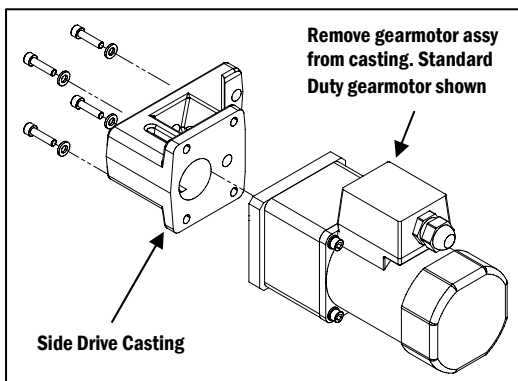
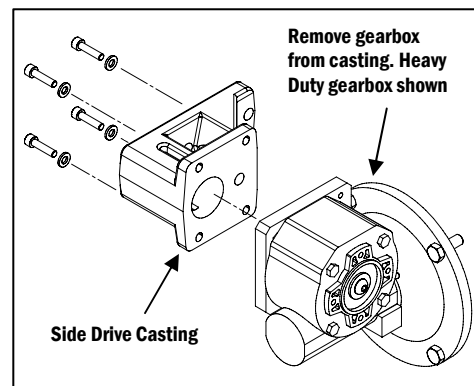

Figure 2
Figure 3
- Remove the Drive Mounting Sub Plate/gearbox/motor assy from the casting by removing four M6 Socket Head Cap Screws using a Allen Wrench (Figure 2 & Figure 3).